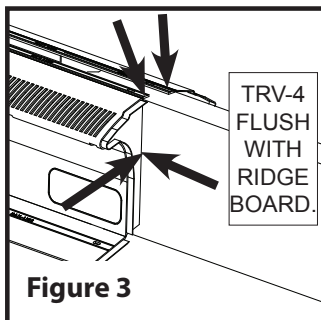

Figure 3
1. Install the ridge board to the proper height based on the supplied Ridge Board Height Gauge. (See Figure 1) It is VERY important that the TRV-4 vent is flush against the ridge board to allow proper air flow and sealing. (See Figure 3)